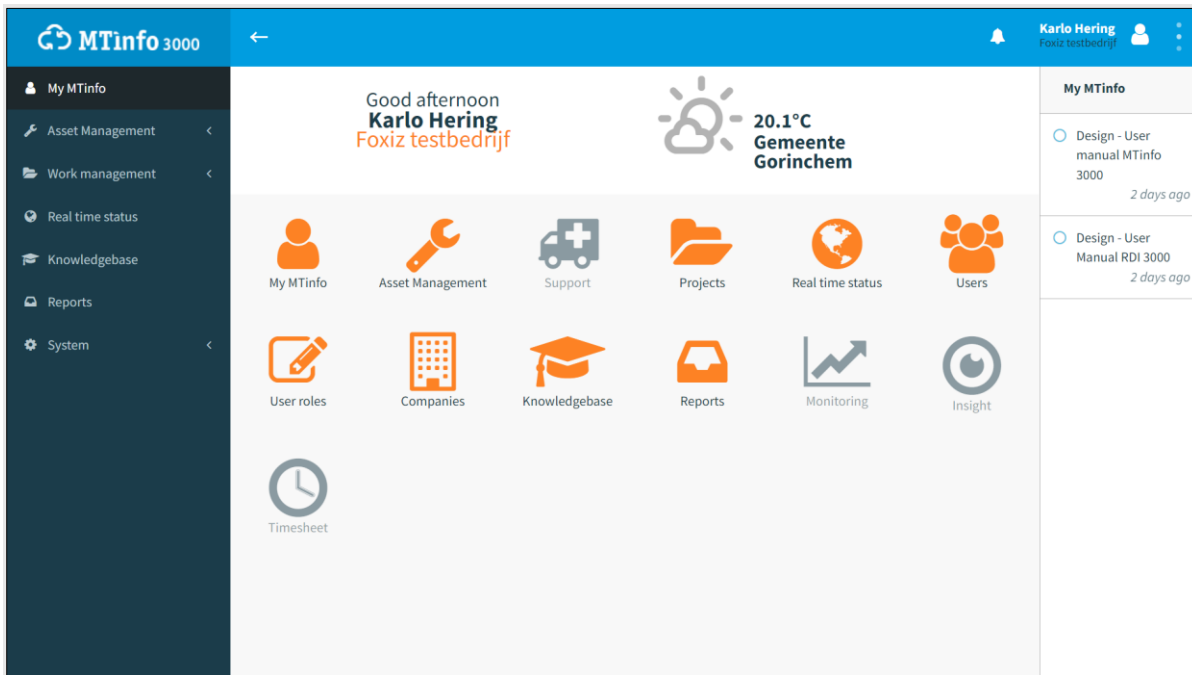

Figure 6-4: Dashboard
1. Go to the Dashboard (Figure 6-4) and click Companies.